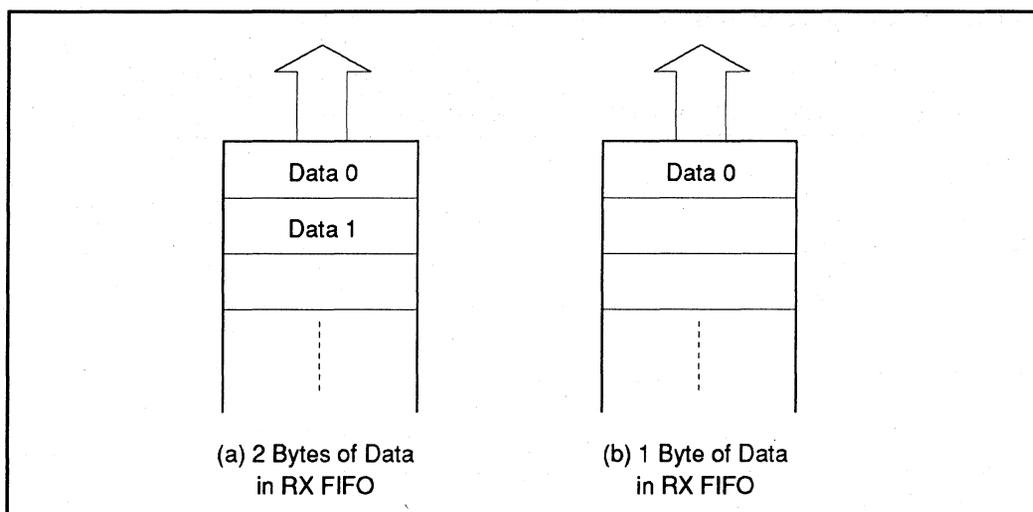

Figure 5-7 Data Arrangement in Receive Buffer
3. Data 0 and 1 are arranged in the order shown in figures 5-7 (a) and (b). The serial unit sends data 0 and data 1 to the receive buffer in that order.